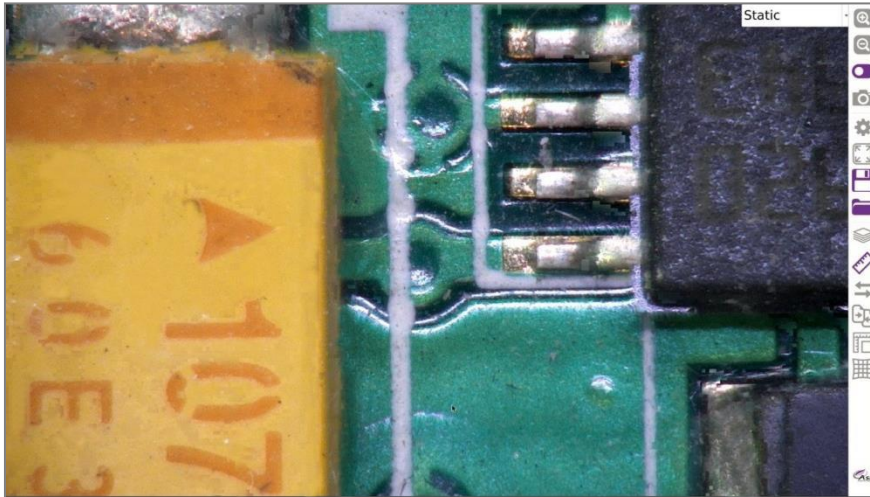

Fig. 35
5. The processed image will now be displayed in static form with all components (heights) in-focus (Fig.35).